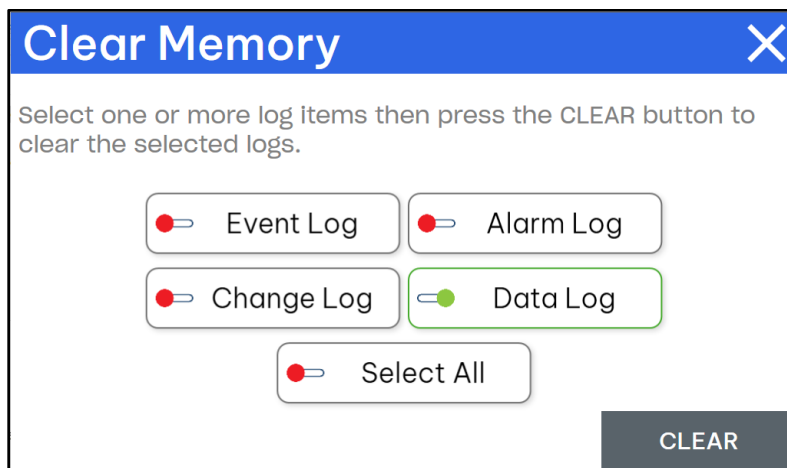

Figure 4-38 Clear Memory Screen
**Data should be downloaded and saved before clearing memory.** As seen in **Figure 4-38 Clear Memory Screen**, when memory is cleared, it will be permanently deleted from the instrument's memory.